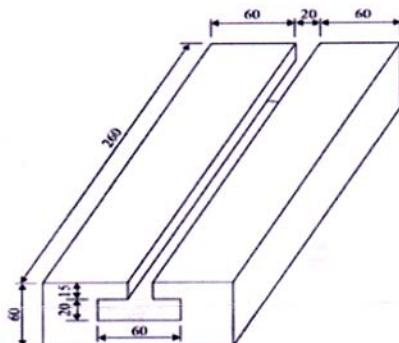

Fig. 7a
b) A T-slot is to be cut in C.I. slab as shown in fig.7a. Estimate the machining time. Take cutting speed 25 m/min, feed is 0.25 mm/rev. Diameter of cutter for channel milling is 80 mm. Assume suitable data if required with justification. [10]